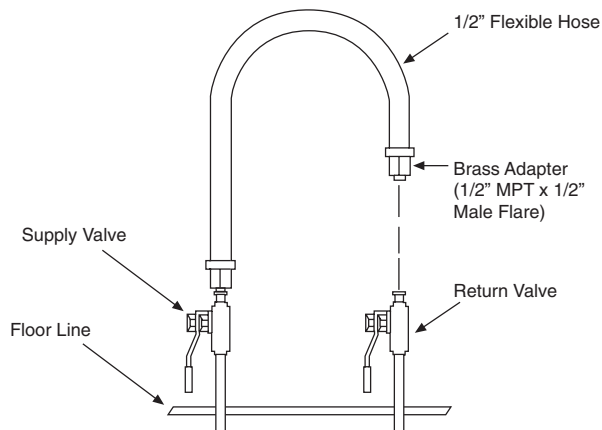

Fig. 35 — Temporary Connection for Flushing System Piping
2. Connect the supply hose directly to the return riser valve. Use a single length of flexible hose, as shown in Fig. 35.
NOTE: If the length of hose is too short (i.e., the resulting connection would exceed the minimum bend radius of the hose), substitute two lengths of flexible hose joined together with a field-supplied, standard NPT coupling and the flare-fitting-to-pipe adapters provided with the hose kit (Fig. 35).